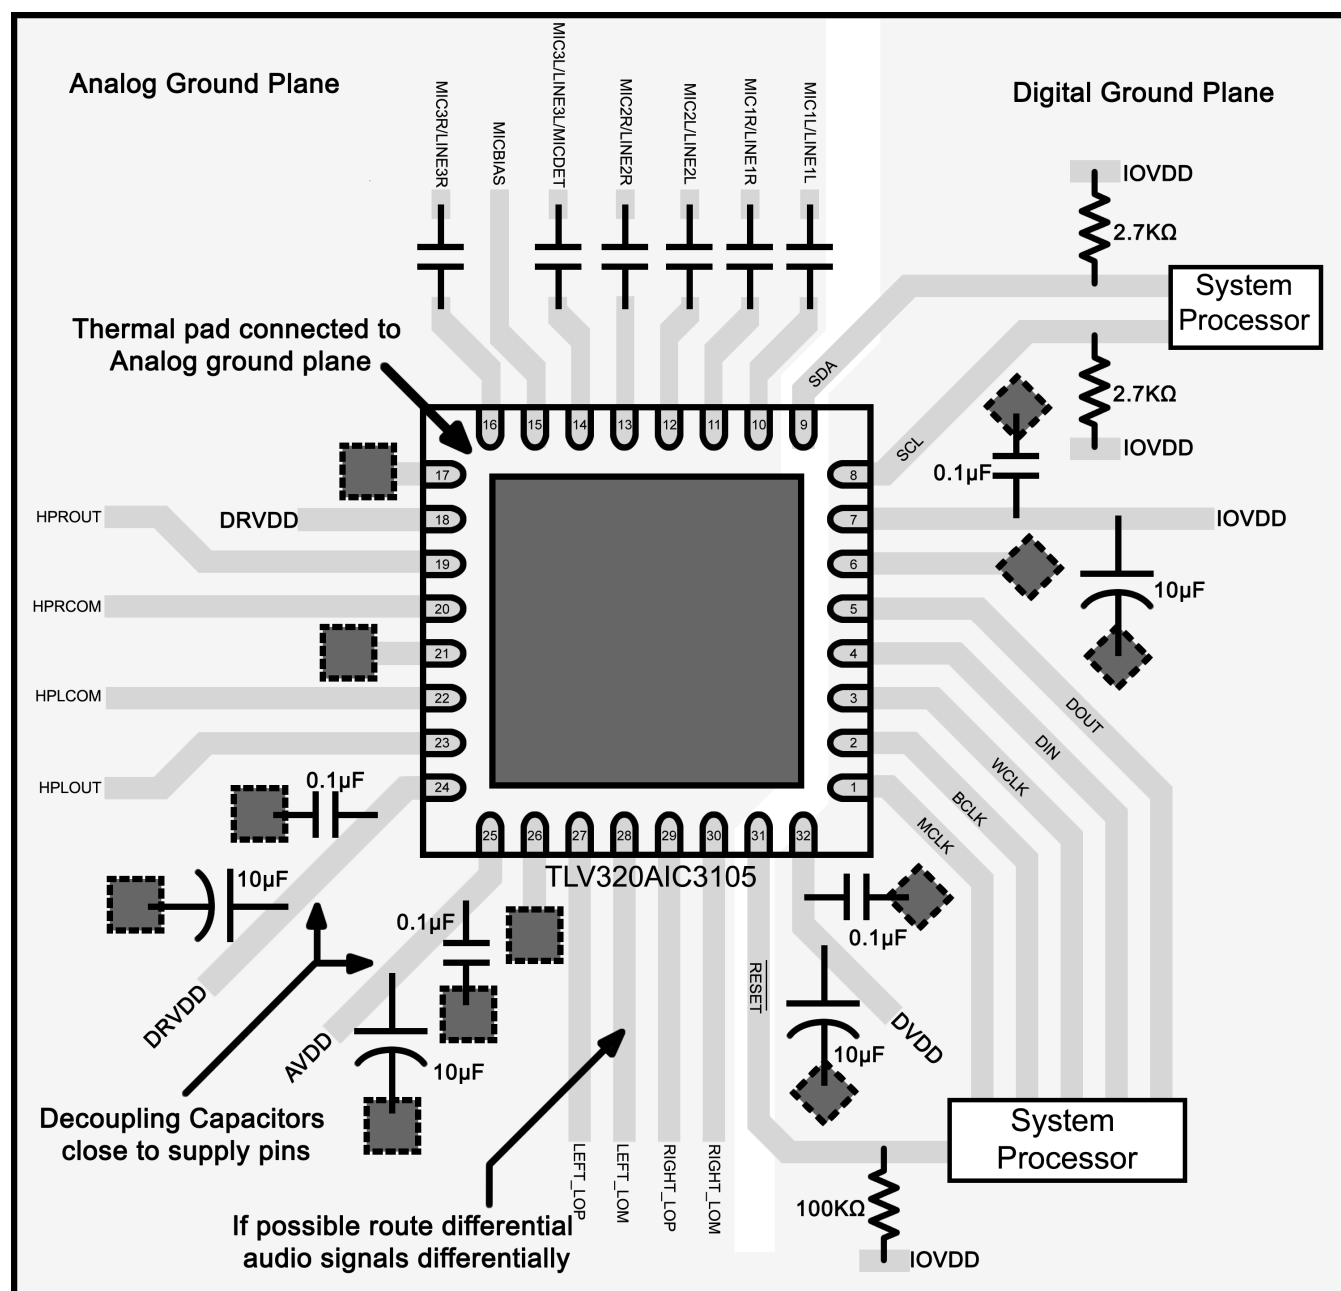

Figure 38. Layout Example
- Following the recommended component placement, schematic layout and routing given in the Figure 38 below, integrate the device and its supporting components into the system PCB.